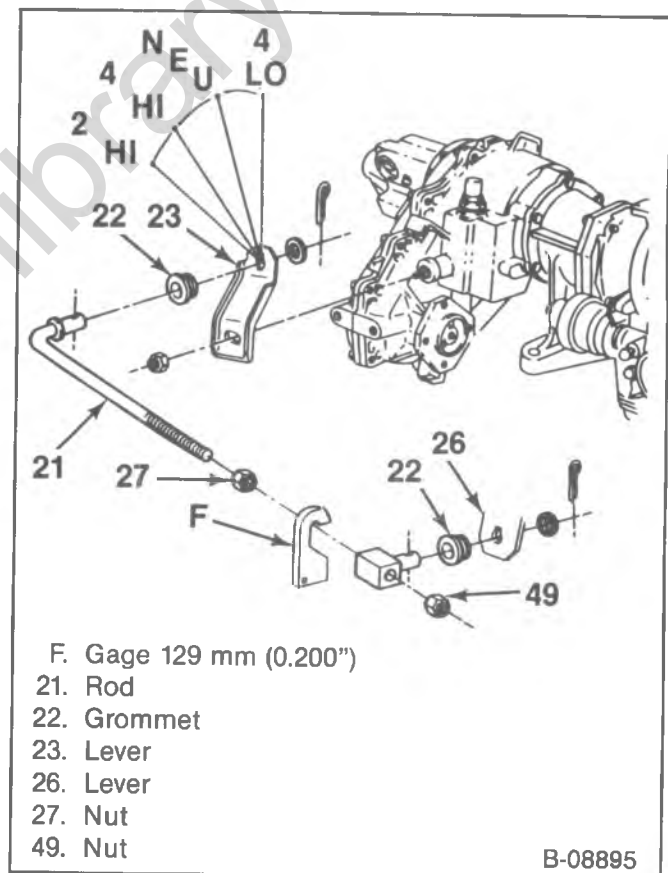

Figure 4—Linkage Adjustment
1. Put the transfer case lever into the 4H detent (Figure 4).
2. Push the lower shifter lever (26) forward into the 4H detent.
3. Install the rod swivel (21) into the shift lever hold.